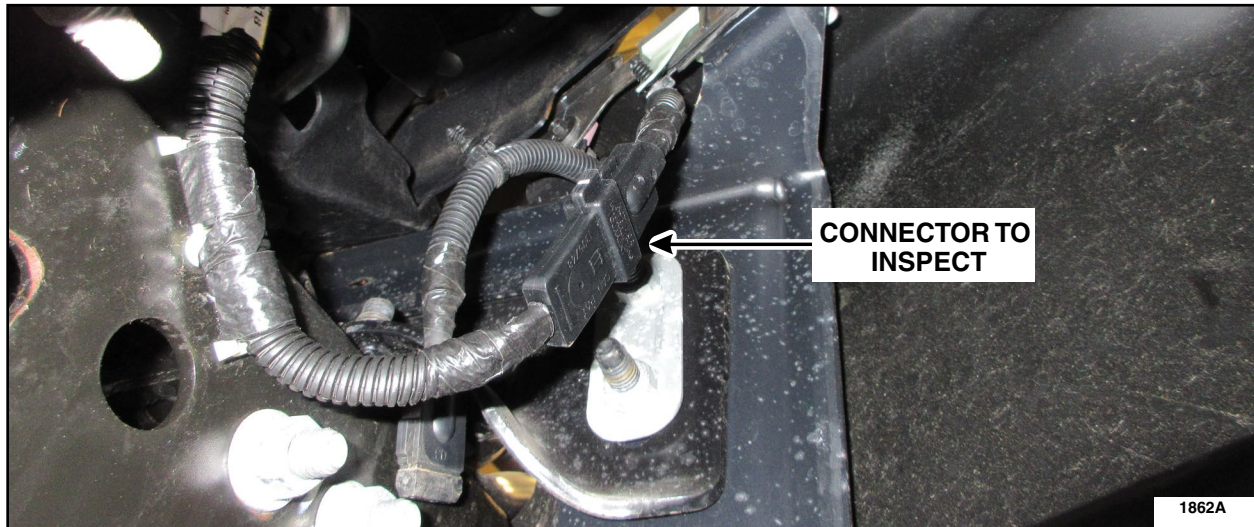

FIGURE 1
1. Inspect the wire assembly at the in-line connector behind the front bumper for water intrusion or corrosion on both sides of the wire assembly. See Figure 1.